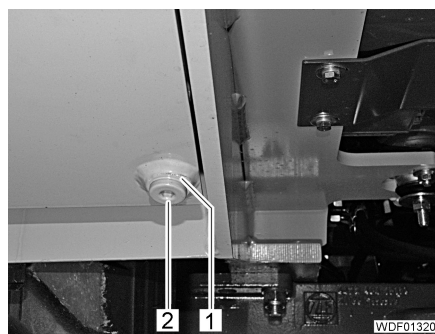

Fig. 95 Drainage screw
- Place a suitably large collecting vessel under the drain hole (Fig. 95,1) of the fuel tank.
- Remove the bottom-end plug (Fig. 95,2) and carefully drain the fuel.